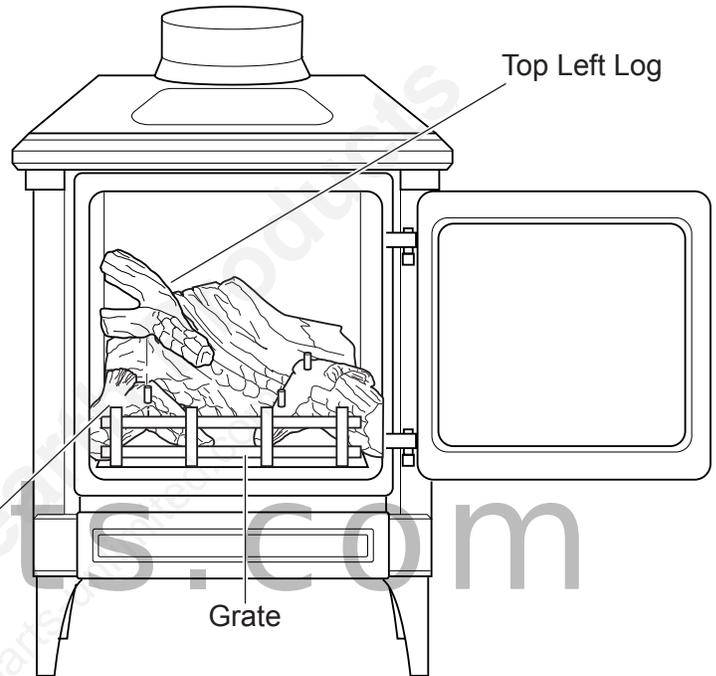

Figure 34 - Installing Top Left Log
6. Place top left log on left base log. Line up the hole in the bottom of the top log with the locating pins on the bottom log. See Figure 34.